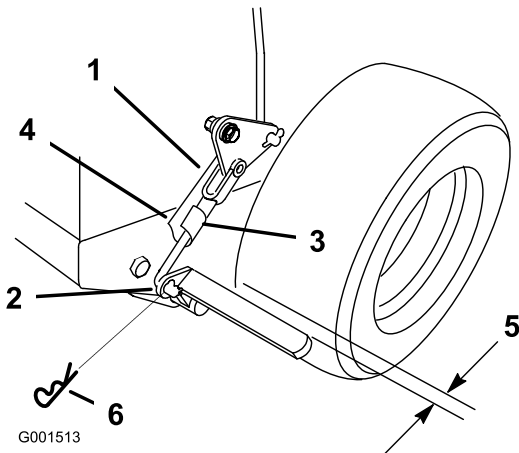

Figure 41
3. Remove the spring hair pin from the lower brake link (Figure 41).
Note: With the parking brake in the released position, the clearance between the tire and the flat bar is approximately 6 mm (1/4 inch) (Figure 41).
5. Secure the lower link to the lower brake lever with the hair pin cotter and the clevis pin (Figure 41).
4. Rotate the lower brake link yoke clockwise into the yoke to tighten the parking brake; rotate the brake link yoke counterclockwise out of the yoke out to loosen the parking brake (Figure 41).